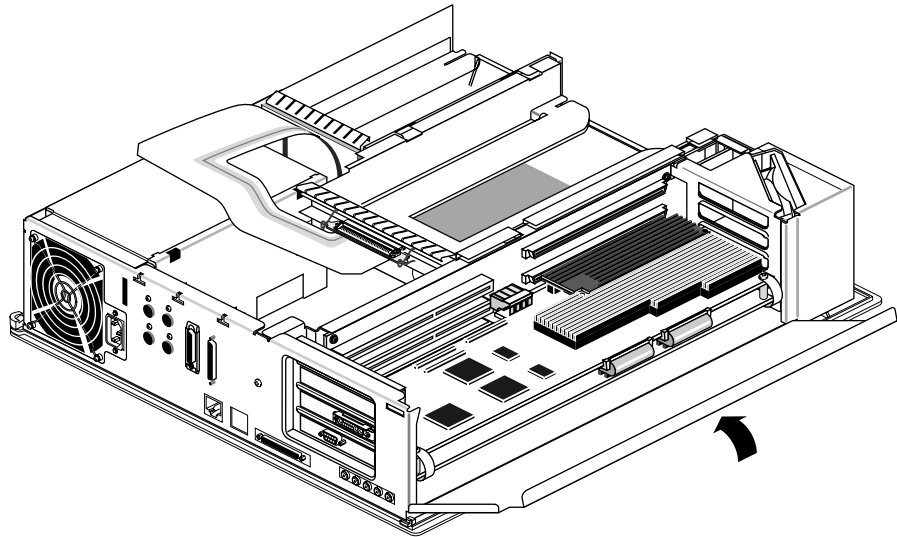

Figure 4-15 Closing the Metal Panel in Front of the Option Slots
5. Tip the metal panel up until it snaps into place, as shown in Figure 4-15.